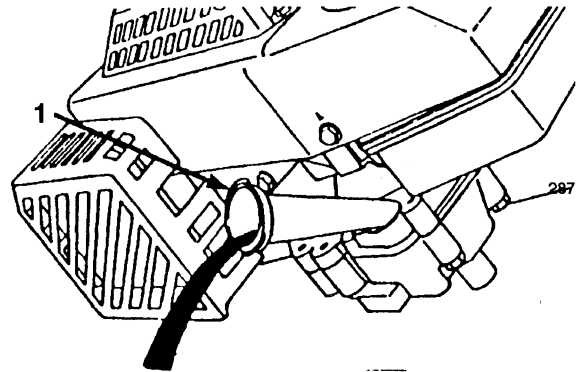

Figure 18
4. Tip mower on its left side, allowing oil to drain into drain pan (Fig. 18).